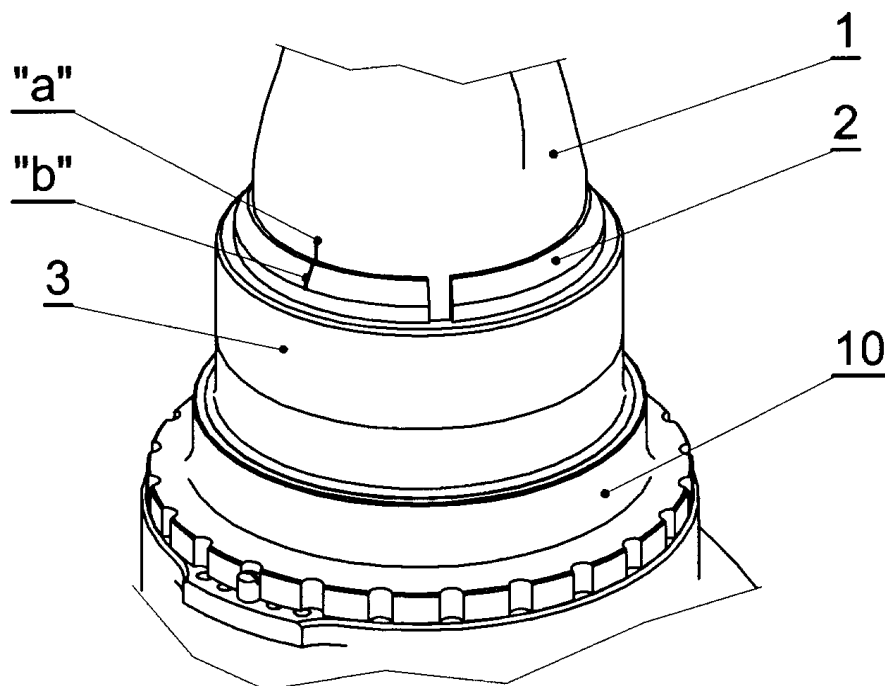

Fig.103 Propeller setting by using of adjustment lines
- b) Propeller blade (1) is manufactured from light alloy and is screwed into the blade sleeve (2) such a way, that position line „a“ on the blade root is flush with position line „b“ on the upper conical area of the blade sleeve (see Fig. 103). The bottom edge of the line “a” reaches up to the blade sleeve or max. 1 mm above the blade sleeve edge. The blade is fixed in this position by contraction of the sleeve (3) by the bolt (4) and nut (5). The propeller blade root is sealed by ring (6).